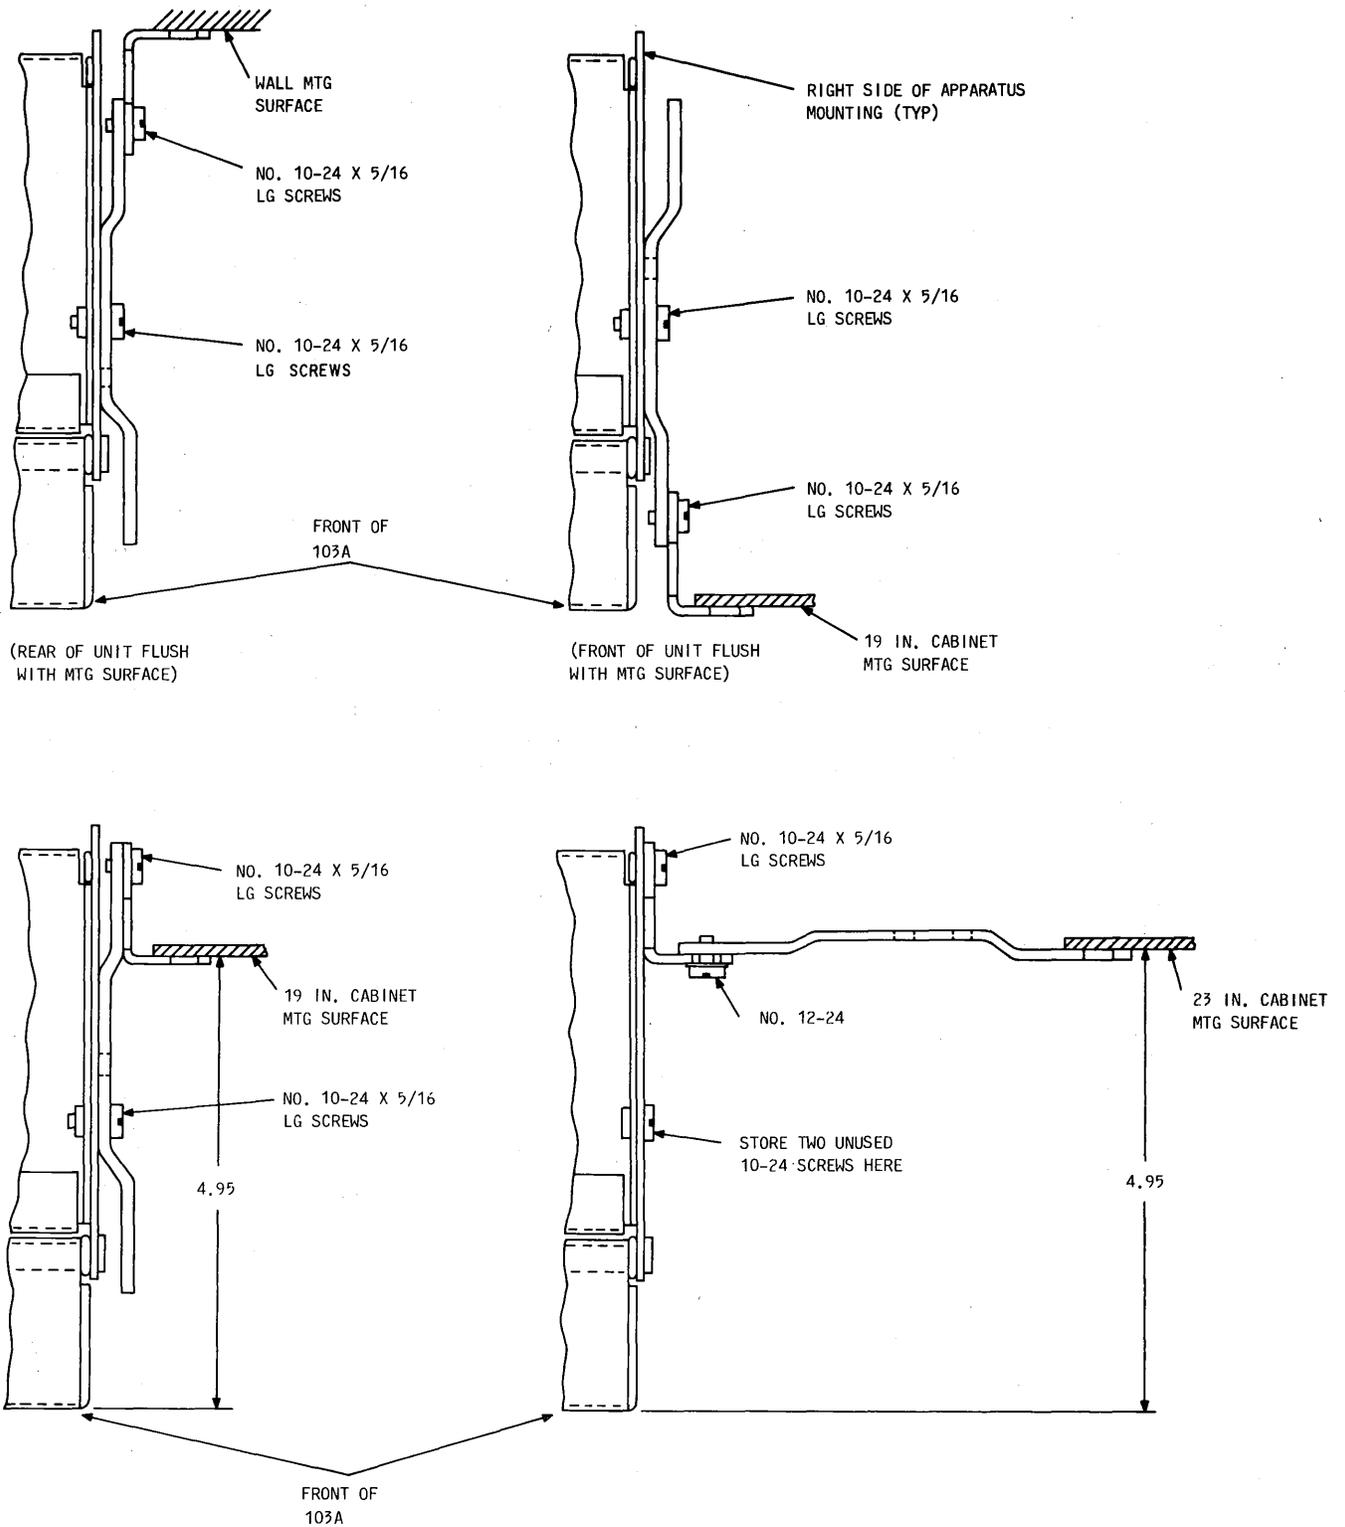

Fig. 19—103A Apparatus Mounting Brackets
3.08 The 103A apparatus mounting provides a multiple arrangement for up to sixteen 97A-type and 97B connecting blocks. The 103A apparatus mounting can be mounted in any of the following configurations (Fig. 19).